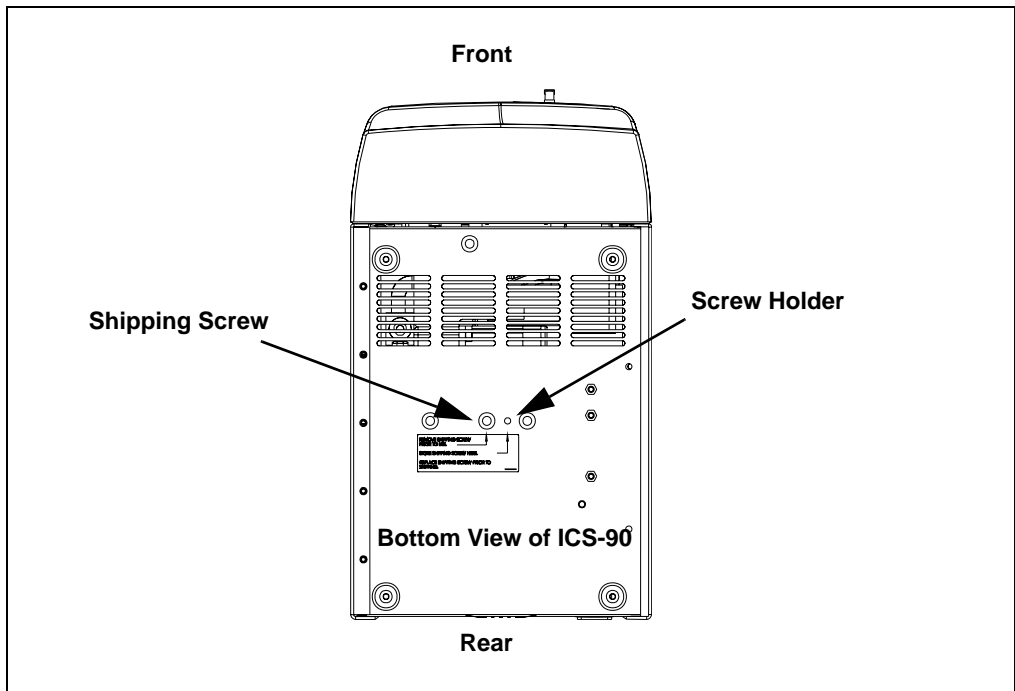

Figure B-1. Pump Shipping Screw Removal
2. Locate the middle screw on the bottom of the ICS-90 (see Figure B-1). This screw secures the pump in place during shipment.
4. A screw holder is located to the right of the screw (see Figure B-1). Place the screw in the holder for safekeeping. You will need to reinstall the screw if the ICS-90 is shipped to another location.